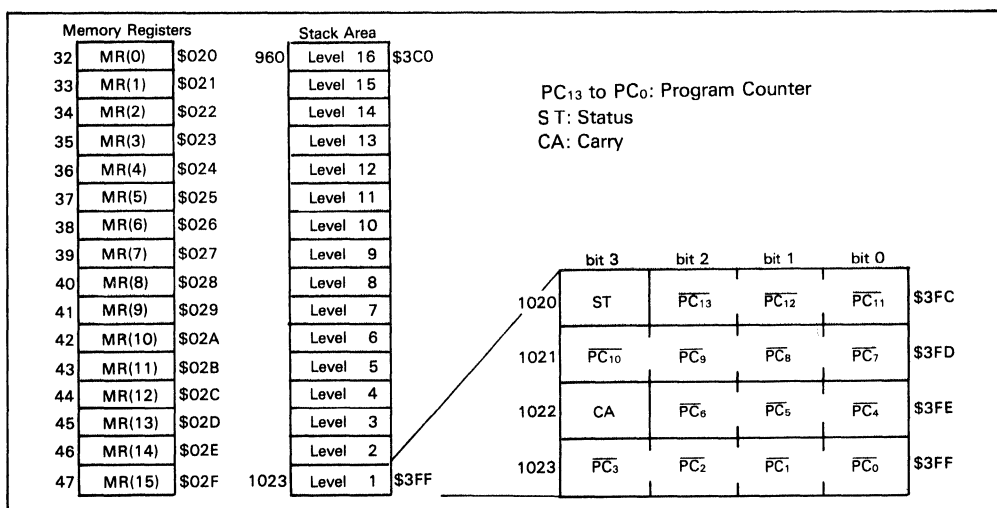

Figure 4. Configuration of Memory Register, Stack Area and Stack Position
Data Area (\$020 to \$1DF): 16 digits, \$020 through \$02F, in the data area are called memory registers (MR) and are accessible by LAMR and XMRA instructions (figure 4).
broutine calls (CAL-instruction, CALL-instruction) and interrupts are serviced. This area can be used as a 16 nesting level stack in which one level requires 4 digits. Figure 4 shows the save condition. The program counter is restored by RTN and RTNI instructions. Status and carry are restored only by the RTNI instruction. This area, when not used for a stack, is available as a data area.